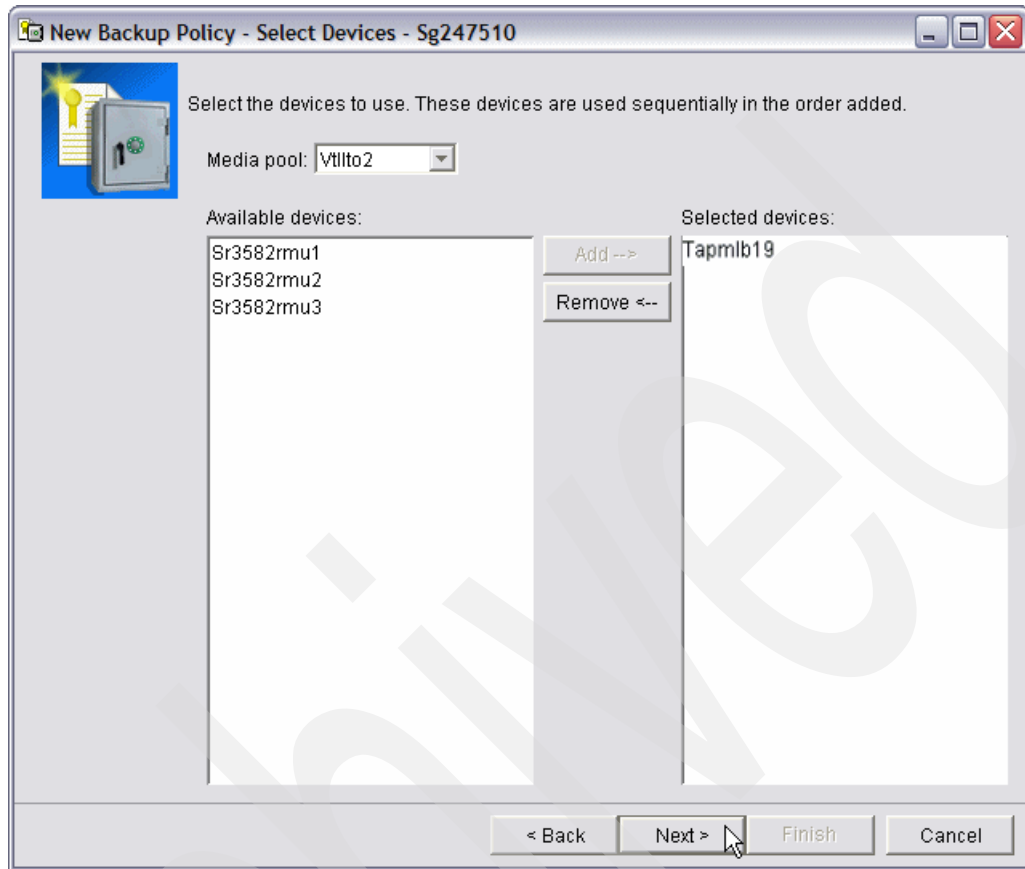

Figure 6-62 New Backup Policy - Select Devices (selected)
20. This places tapmlb19 into the right side, Selected devices area, as shown in Figure 6-62. Click **Next**.